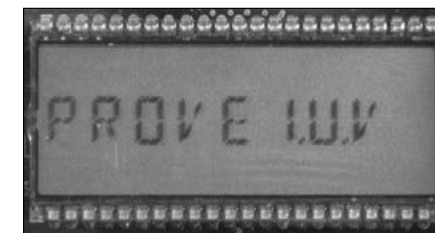

Figure 7 - LCD screen changes to PROVE I.U.V
- After five seconds, the display will change to **PROVE I.U.V** (Figure 7).